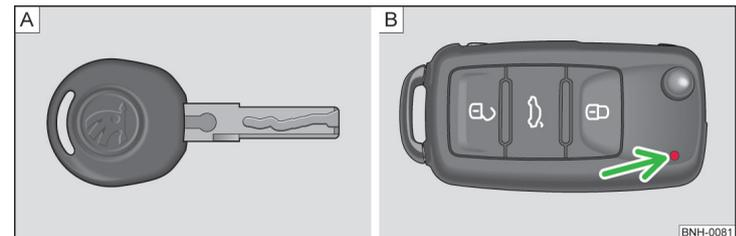
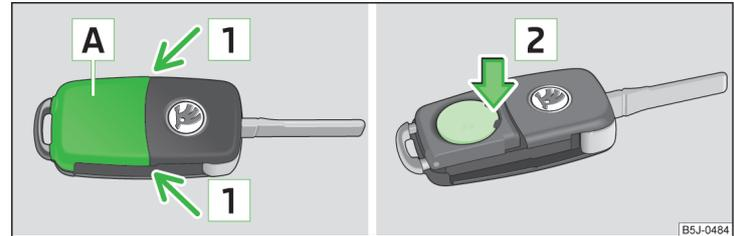

Fig. 25 Key: without/with remote control
Fig. 26 Remote control key: Remove cover/remove battery
Two keys are provided with the vehicle. Depending on the equipment, your vehicle can be equipped with keys without radio remote control » Fig. 25 - [A] or with radio remote control » Fig. 25 - [B].
Each remote control key contains a battery located under the cover **A** » Fig. 26. The battery needs replacing if red indicator light » Fig. 25 on page 42 - **B** does not go on when you press a button on the remote control key. We recommend having key battery replaced by a specialist garage. However, if you would like to replace the discharged battery yourself proceed as follows.
- Press off the battery cover with your thumb or using a flat screwdriver in the region of arrows **1** » Fig. 26.